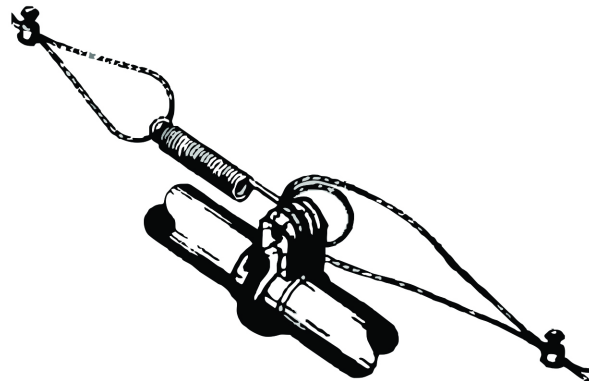

Figure 47. Anti-Roost Cable Mid-Line Connection
9. Attach a spring in the center groove at the second anti-roost bracket and cut the cable at this point. (See **Figure 47.**)
10. Thread the ends of the cable through the end of the spring. Pull the cable tight so that there is 3/4" to 1" [20 to 25 mm] of stretch in the spring. Clamp the cable to form a loop and cut off any excess. (See **Figure 47.**)
11. Attach the cable to the insulator. For best results, make a double loop around the anti-roost insulator in the center groove of the insulator and fasten with a 1/16" cable clamp as shown in **Figure 47.**